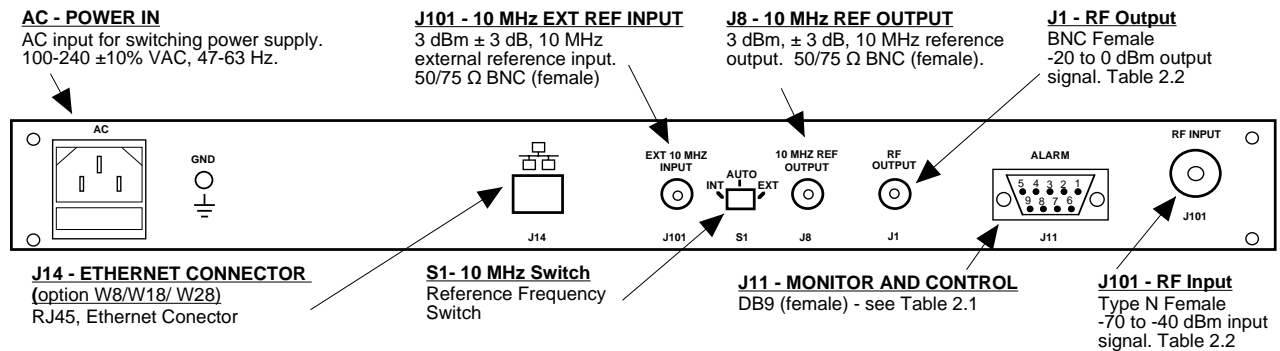

FIGURE 2.2 3116-7984-720-400# Rear Panel I/Os
Figure 2.2 shows the input and output connectors on the rear panel.
1. Connect a -70 dBm to -40 dBm signal to RF IN, J101 (Figure 2.2).